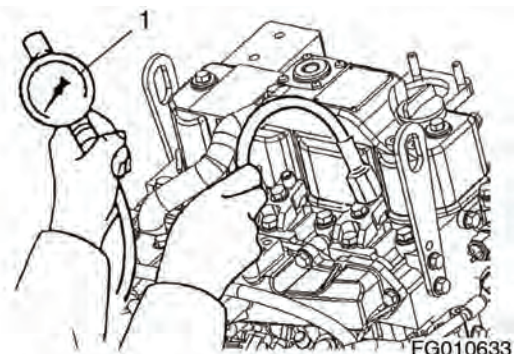
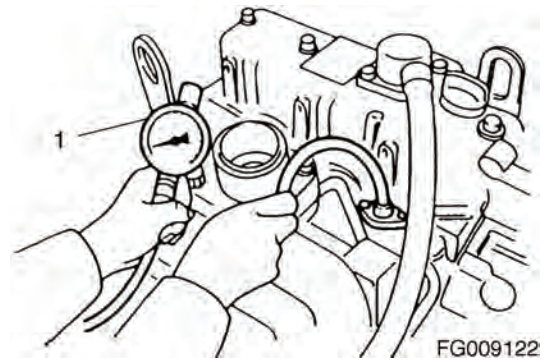

Figure 413
Figure 414
5. Before installing the compression gauge (1, Figure 413) 2 valve engine, (1, Figure 414) 4 valve engine) adapter, crank the engine with the stop solenoid disconnected for a few seconds to clear the cylinder of any residual fuel.